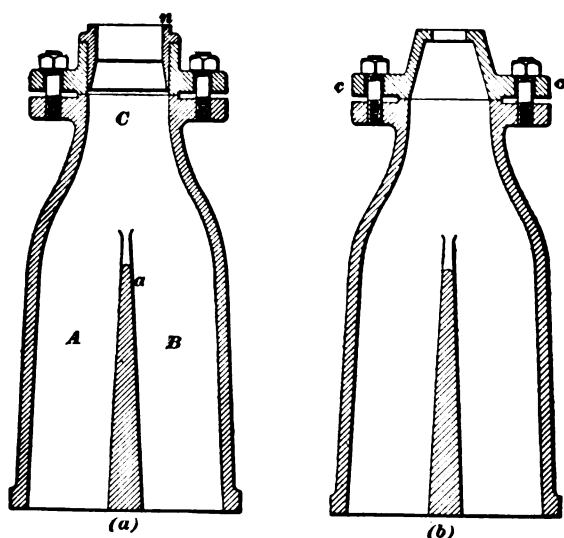

FIG. 20.
openings are brought as near together as practicable in order to have them as nearly central with the petticoat pipe as possible. (*d*) and (*e*) show two views of the exhaust nozzles, (*d*) being a cross-sectional view and (*e*) a plan, or view, from above. (*c*) is a side view of (*a*). The nozzle is bored out straight for about 1 inch from the top, the remainder of the distance being tapered off. Another type of exhaust tip or nozzle has a square shoulder just below the top of the opening, as shown in Fig. 20 (*b*). The straight part, view (*a*), is intended to prevent, as much as possible, the steam spreading after it leaves the
**28. Single Exhaust Pipe.**—In Fig. 20 is shown a single exhaust pipe, so named because the two passages *A* and *B*, which connect with the two exhaust passages in the steam cylinders, are combined about half way up the pipe, and have but one orifice *C* through which the exhaust steam can pass. If a different size of exhaust orifice is desired, the nozzle *n* is removed and replaced by one having an orifice of the required size.